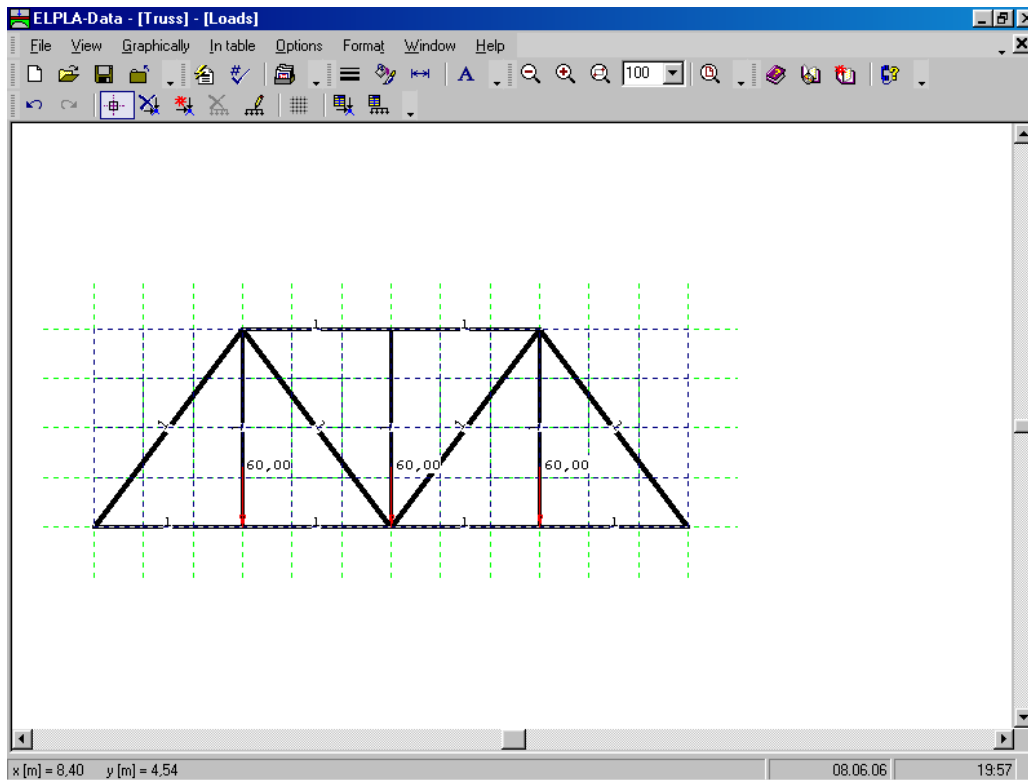

Figure 6-29 Truss load on the screen
After you have completed the definition of the nodal loads, the screen should look like the following Figure 6-29.
- Choose "Save loads" command from "File" menu in Figure 6-29 to save the load data
- Choose "Close loads" command from "File" menu in Figure 6-29 to close the "Loads" embedded program and return to the main window of *ELPLA-Data*